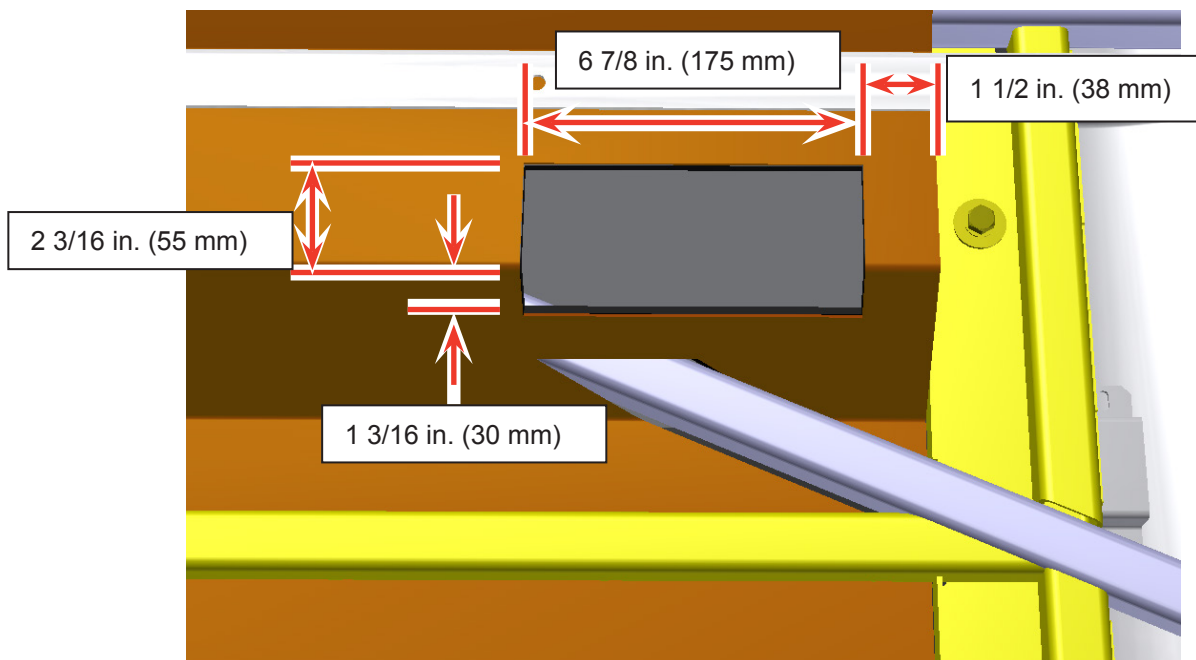

Figure 4 - Dimensions of Hole to Cut in the Structure
- 1.5. With a grinder or any equivalent tool, cut an access hole in the structure according to the dimensions shown in Figure 4.